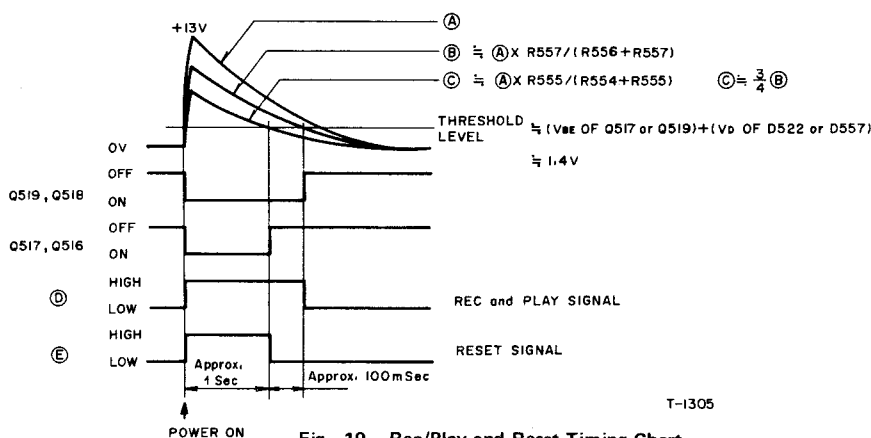

Fig. 19 Rec/Play and Reset Timing Chart
When current flows in C517, the potential at point (B) is greater than that at point (C) because R556 is larger than R555. Therefore, when the potential at point (A) falls as C517 charging proceeds, Q519 is held on for a longer time. This relationship is illustrated in Fig. 19. As seen from Fig. 19, signals are left in routes (3) and (4) even after the SYS-CON reset signal has stopped. Thus, the deck is set in the REC-PLAY mode.